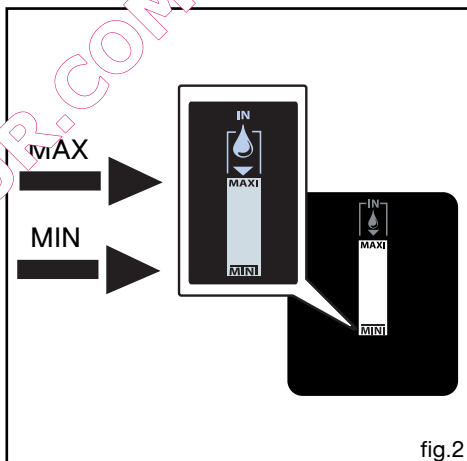

fig.2
Use the **maximum** level mark visible on the front face of the drawer (fig.2).
- The display, the drawer and the  flashing light indicate that you may proceed with the emptying cycle (fig.2)